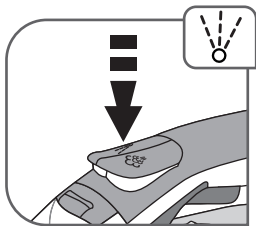

Fig. 11
- When you dry or steam iron, press the SPRAY button several times to wet the fabric and remove resistant creases – fig.11.